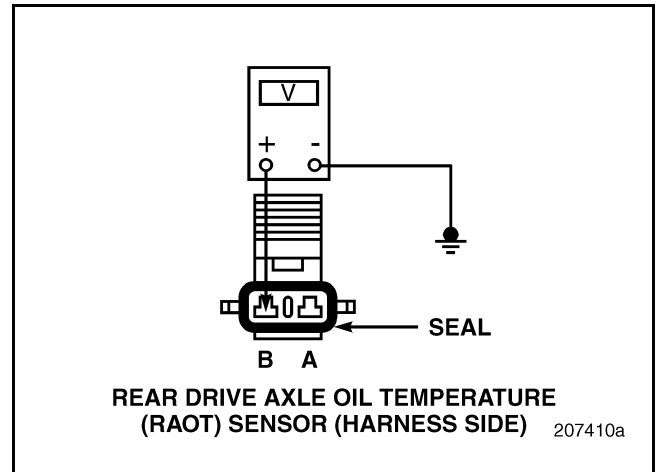

Figure 256
3. Measure the voltage between RAOT Sensor harness connector pin B and a good ground (see Figure 256).